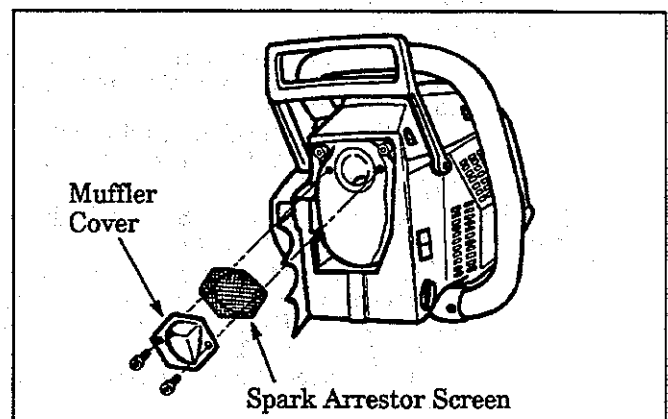

Figure 36
2. Remove the Muffler Cover. Figure 36.